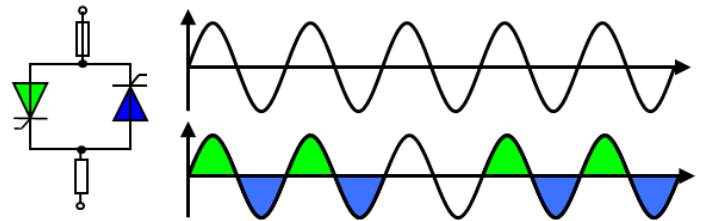

Figure 2: Diagram of a pair of back-to-back SCRs; the alternative current through the back-to-back SCRs. (Source: Advanced Energy)
- **Zero-cross or burst firing.** In this type of firing method—also called fast cycling—the SCRs are turned on and off only when the instantaneous value of the sine wave is zero. The advantage of this firing mode is the reduction or total elimination of electrical noise transmitted by the SCRs. Sensitive electronic devices may not function properly when electrical noise is present, but zero-cross firing prevents this. Figure 2 shows the diagram of the output of a back-to-back SCR system. Notice that the SCRs are always fired (switched on) at zero voltage. To reduce the electrical noise, they must be switched on and off at the lowest possible voltage level. Once an SCR is turned on, it will remain at the on position until the conducted current falls to zero. This occurs every half-cycle in an AC voltage. An added advantage of this firing mode is that no harmonics are created at the moment of switching.